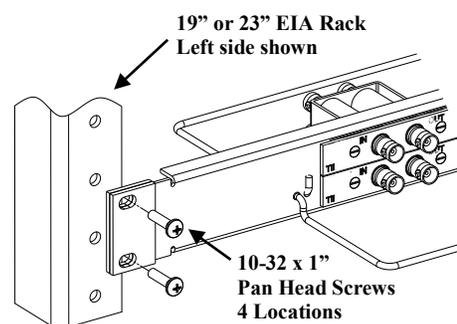

Figure 1
1. Secure the 706 protector panel to the appropriate industry standard 19" or 23" EIA 1U rack (See Figure 1).
2. Using the (4) slotted holes on the panel secure the 706 to the rack with 10-32 hardware (See Figure 1).